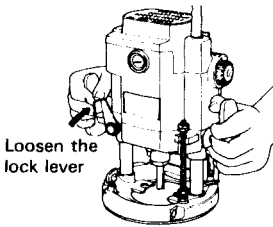

Fig. 5
(2) As shown in Fig. 5, loosen the lock lever and press down the main unit until the bit comes into slight contact with the surface of the materials. Tighten the lock lever at this point.